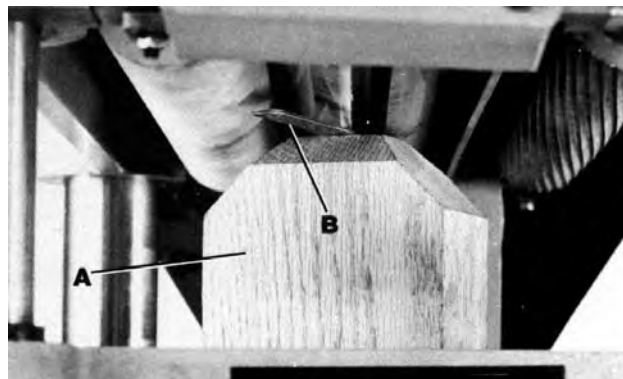

FIGURE 24
3. Place a constructed gauge block (A) Fig.24 on the table directly underneath the cutterhead as shown. Using a 0.040” feeler gauge (B) placed on top of the gauge block, raise or lower the head assembly until one of the knives just touches the feeler gauge when the knife is at its lowest point. Then tighten the head locking knobs.
3. Place the gauge block (A) Fig.24, on the table directly underneath the cutterhead as shown. Using a 0.040” feeler gauge (B) placed on top of the gauge block as shown, raise or lower the head assembly until one of the knives just touches the feeler gauge when the knife is at its lowest point. Then tighten the head locking knobs.